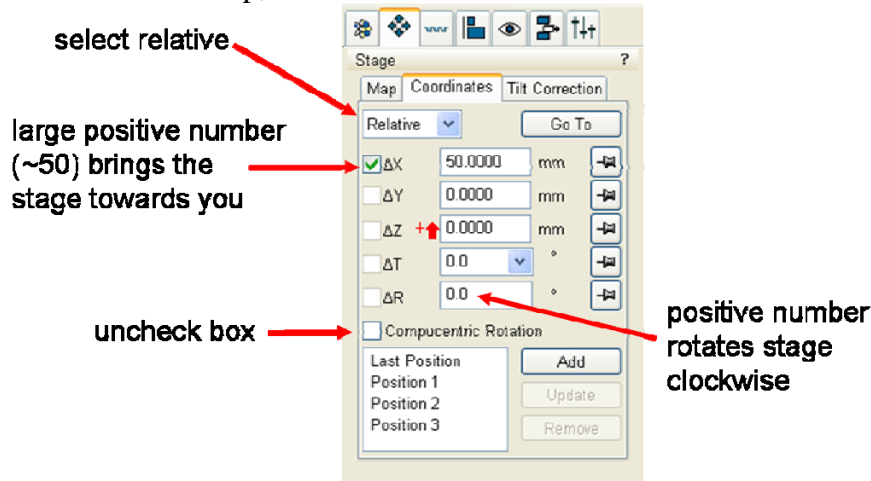

Figure 3. User interface settings for moving the stage in order to facilitate access to stub hole setscrew.
- To facilitate adjusting the setscrew (use very little force), you may need to rotate the stage so that the setscrew is to your right when you stand in front of the chamber. You may also need to bring the stage closer to you to make it easier to place the stub and tight the setscrew. You move the stage only from the User Interface (see figure 3). If you have any questions about this step, do not hesitate to call Fernando or Aaron.